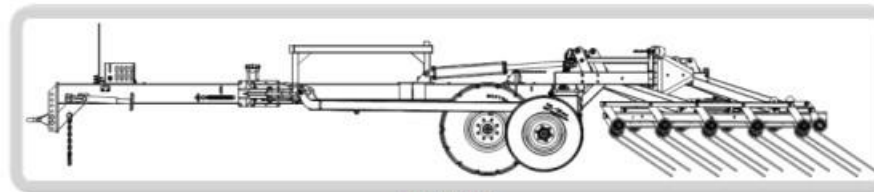

FIGURE 7
12. Slowly drive the tractor ahead, while lowering the harrow wing the rest of the way down (fig. 7).